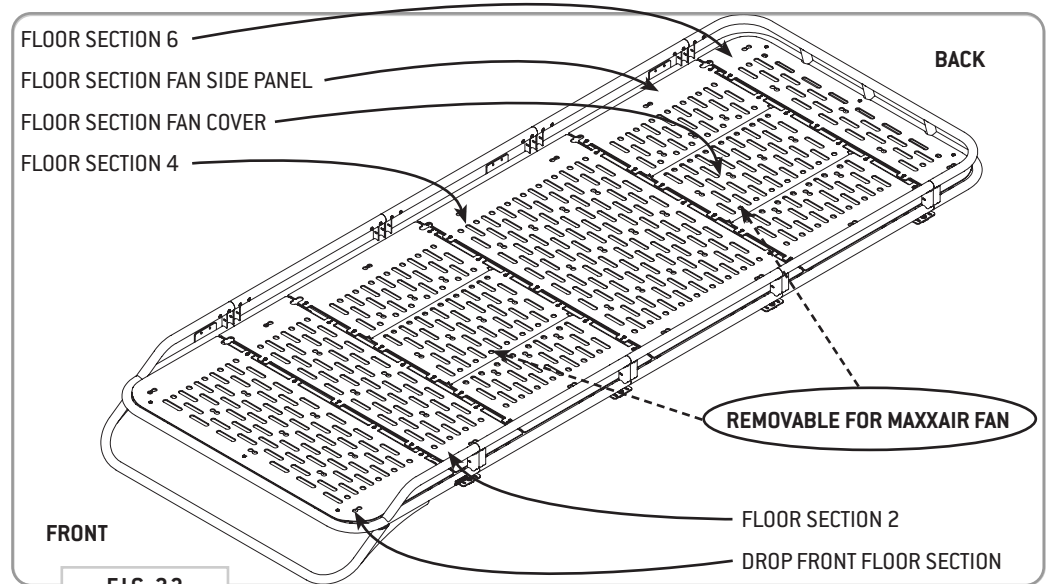
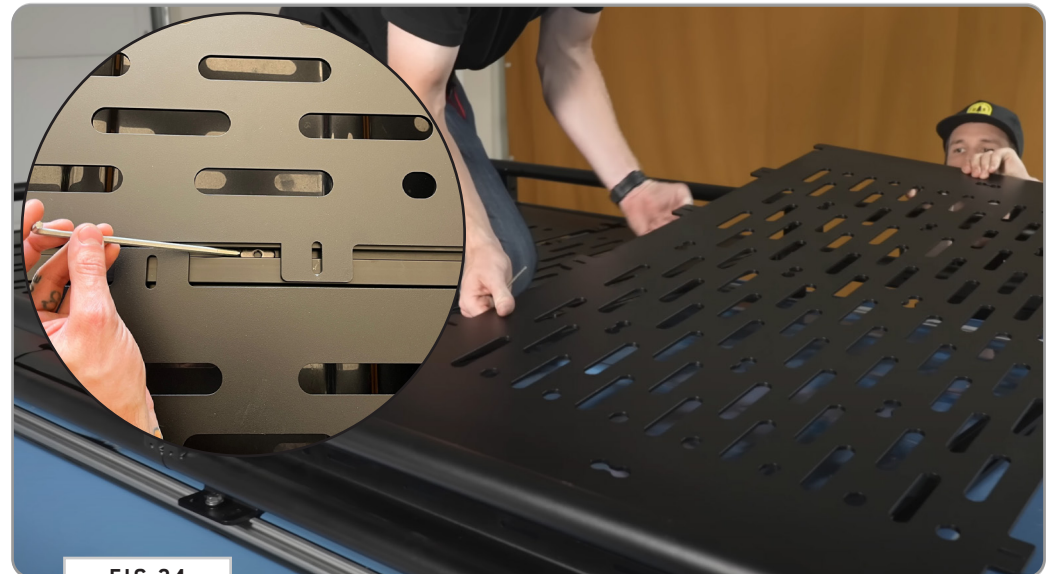

FIG 23
FIG 24
9.1 Install Floor Panels: Begin to layout your **Decking Panels** along the locations shown in **FIG 23**. Adjust the **T-Nuts** as necessary to line up with the available pill slots of the **Decking Panels** (**FIG 24**).